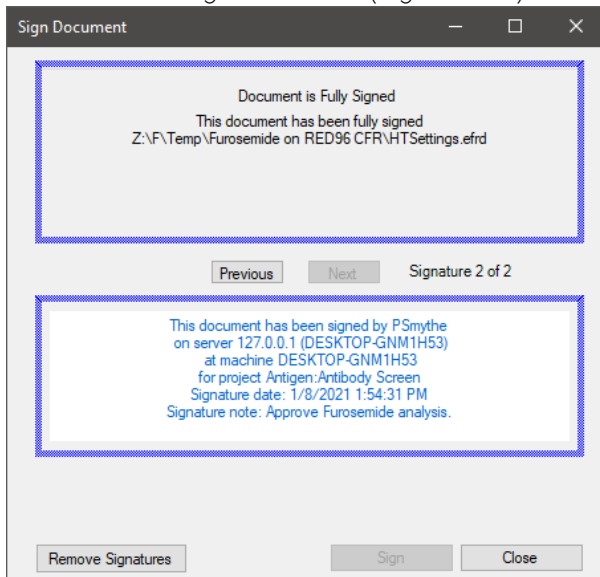

Figure 12-18: Sign Document Dialog After Second Signature
4. **Second Reviewer** - Repeat Steps 1-3. The Sign Document dialog now indicates that the document is fully signed and shows Signature 2 of 2 (Figure 12-18).